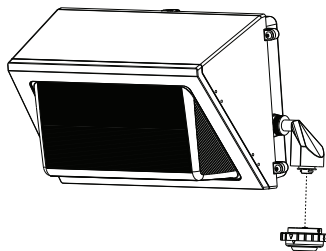

Fig. 21
7. Insert the required c-Max sensor onto the CEA-RDB USB-C receptacle. (See Fig. 21)